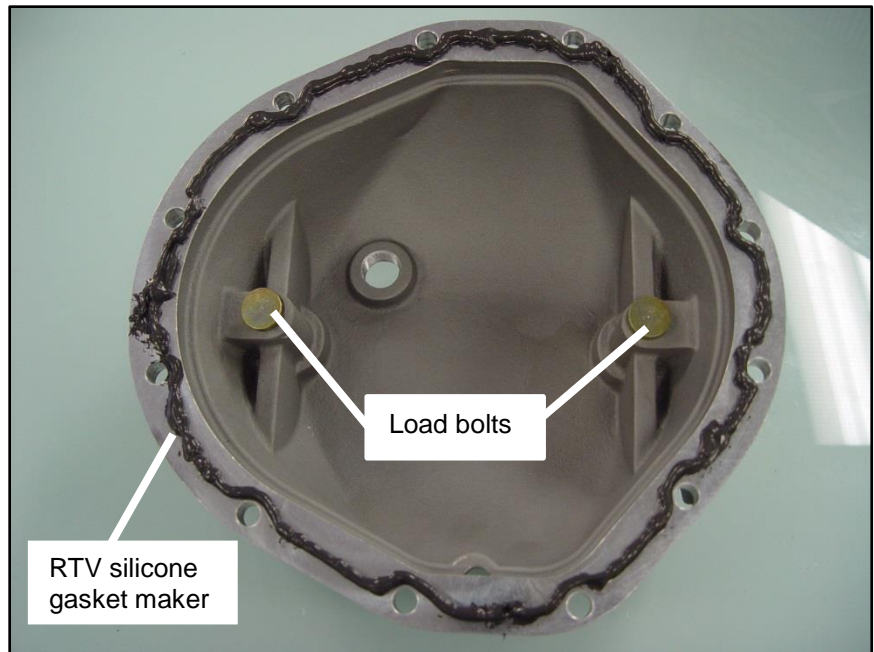

Figure 4
STEP 11. Apply a bead of RTV silicone gasket maker to the **B&M Cast Aluminum Rear End Cover**. Run the bead inside the bolt holes (**See Figure 4**).